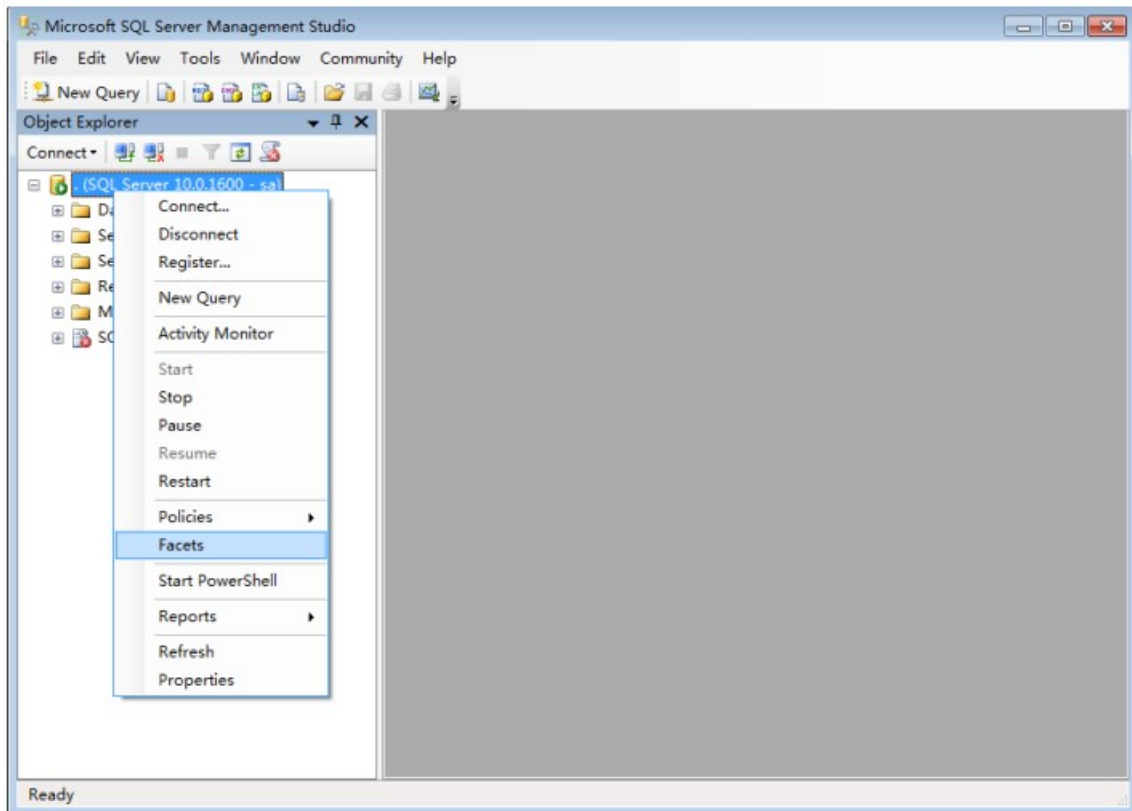

Fig.1.7 Microsoft SSMS
**Step Seven:** Back to SQL Server Management Studio login interface, right click SQL Server, choose “Facets” (see Fig.1.7).